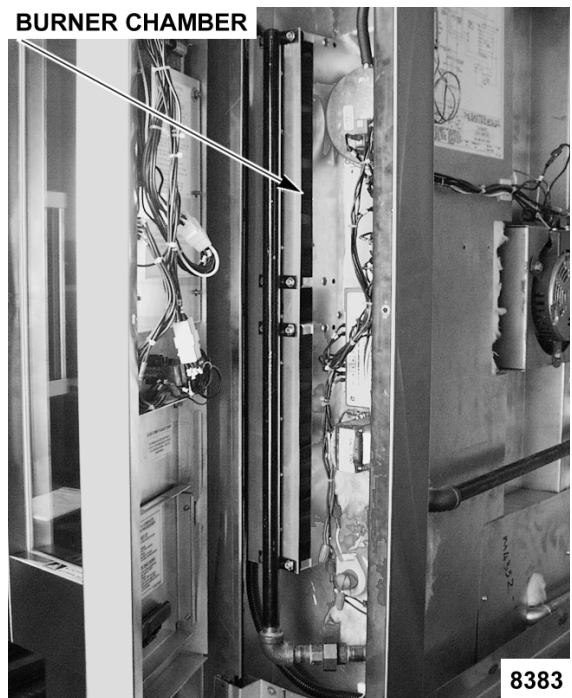

Fig. 5
1. Clean the burner chamber (Fig. 5) area of dust and/or lint accumulation.